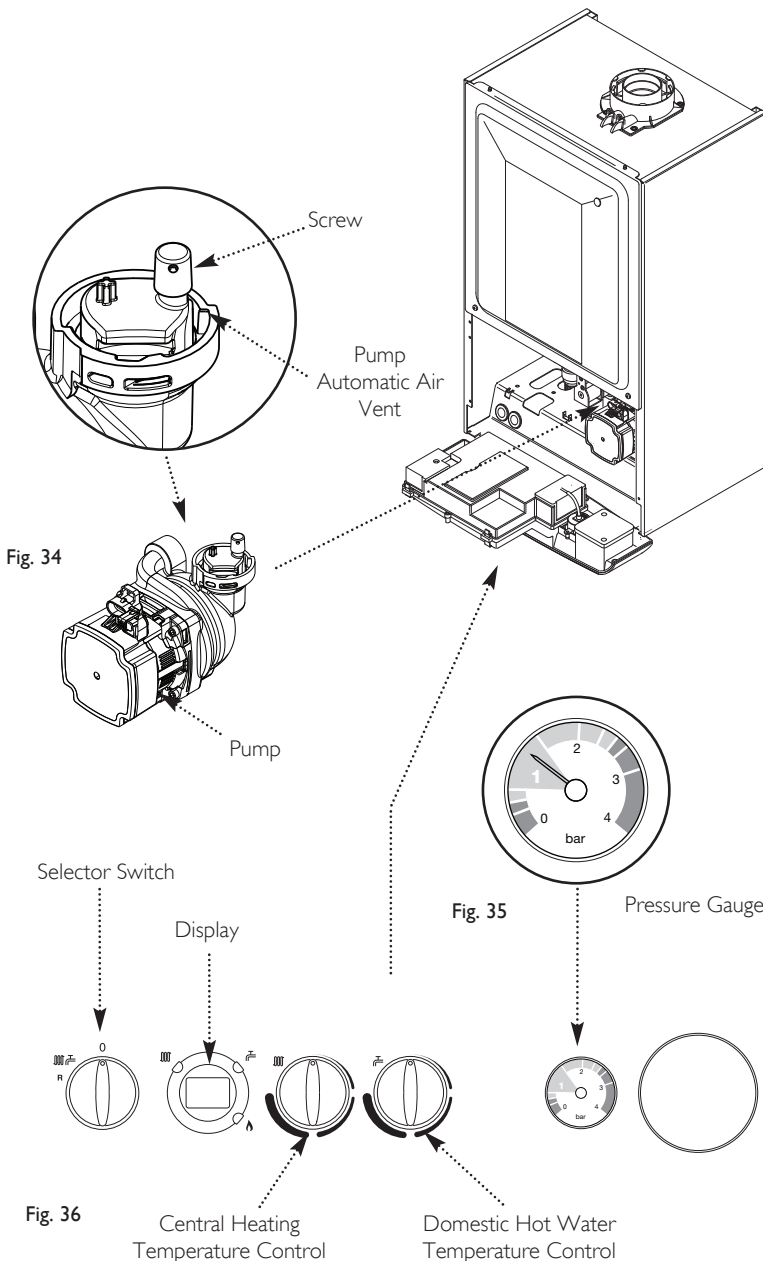

Fig. 36
15. Turn both control knobs (Fig. 36) fully anticlockwise, then quickly turn the right hand knob 1/4 clockwise twice and back fully anticlockwise.